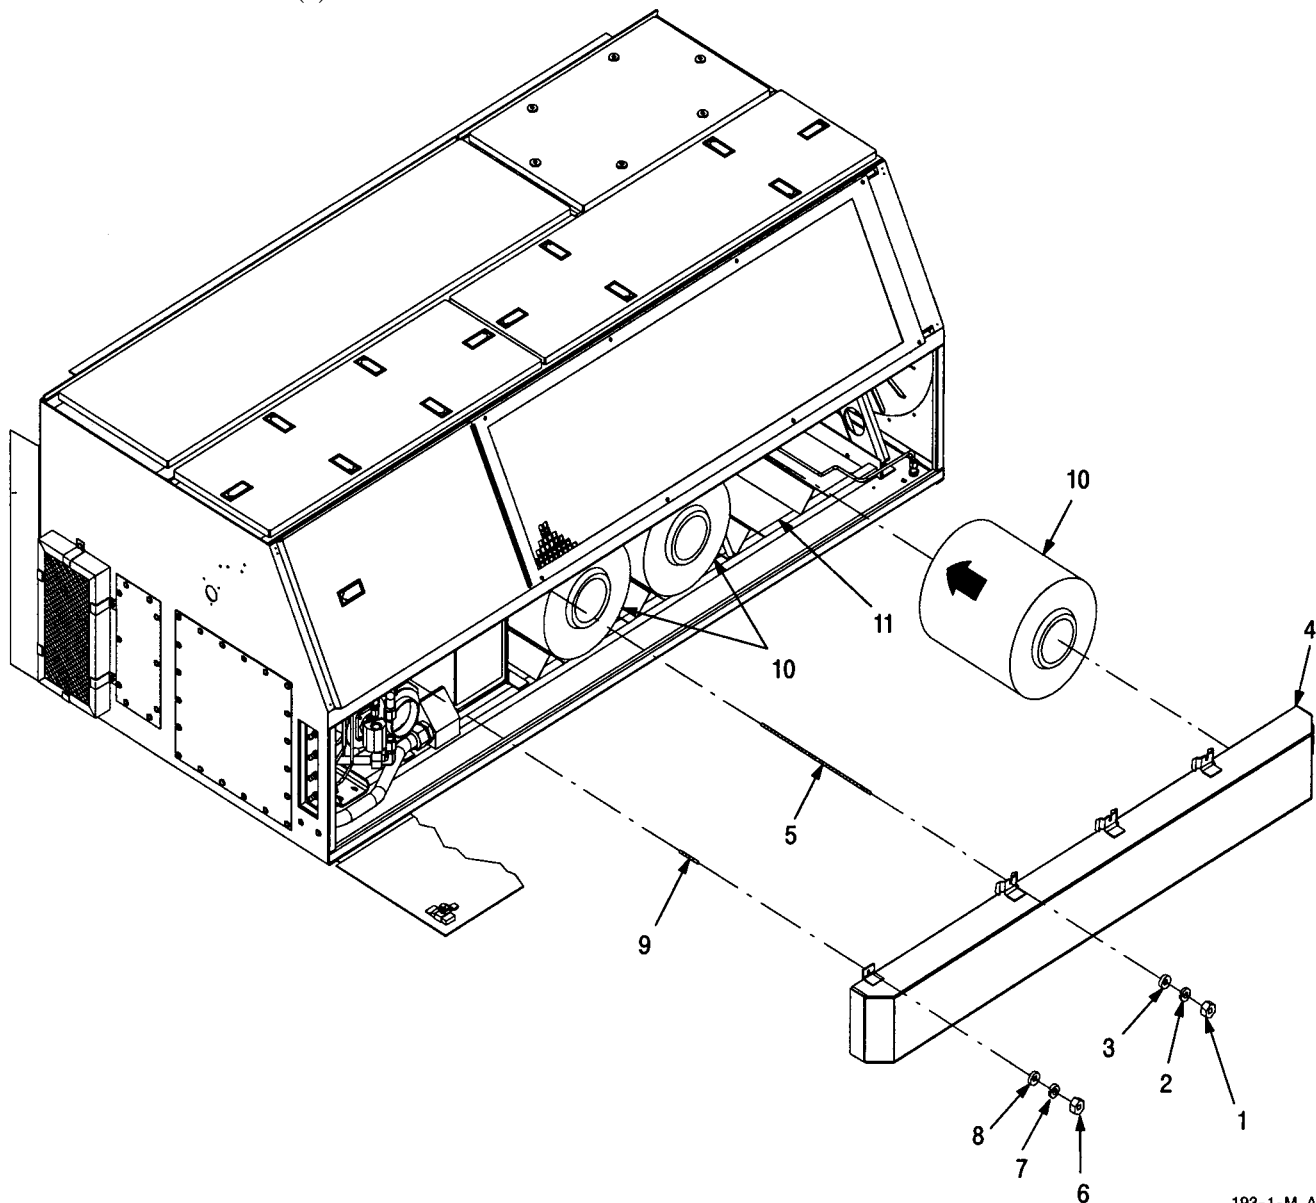

Figure 3-8. NBC Filter Replacement
- a. Removal (Refer to Figure 3-8)
b. Installation (Refer to Figure 3-8)